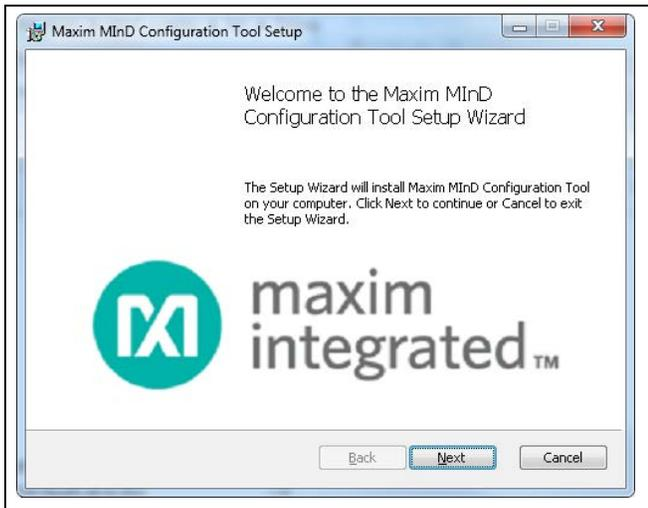

Figure 3. Software Install (Step 1)
- 1) From the **installer** folder, execute the **Setup.exe** file, then click **Next** to start the wizard (Figure 3).